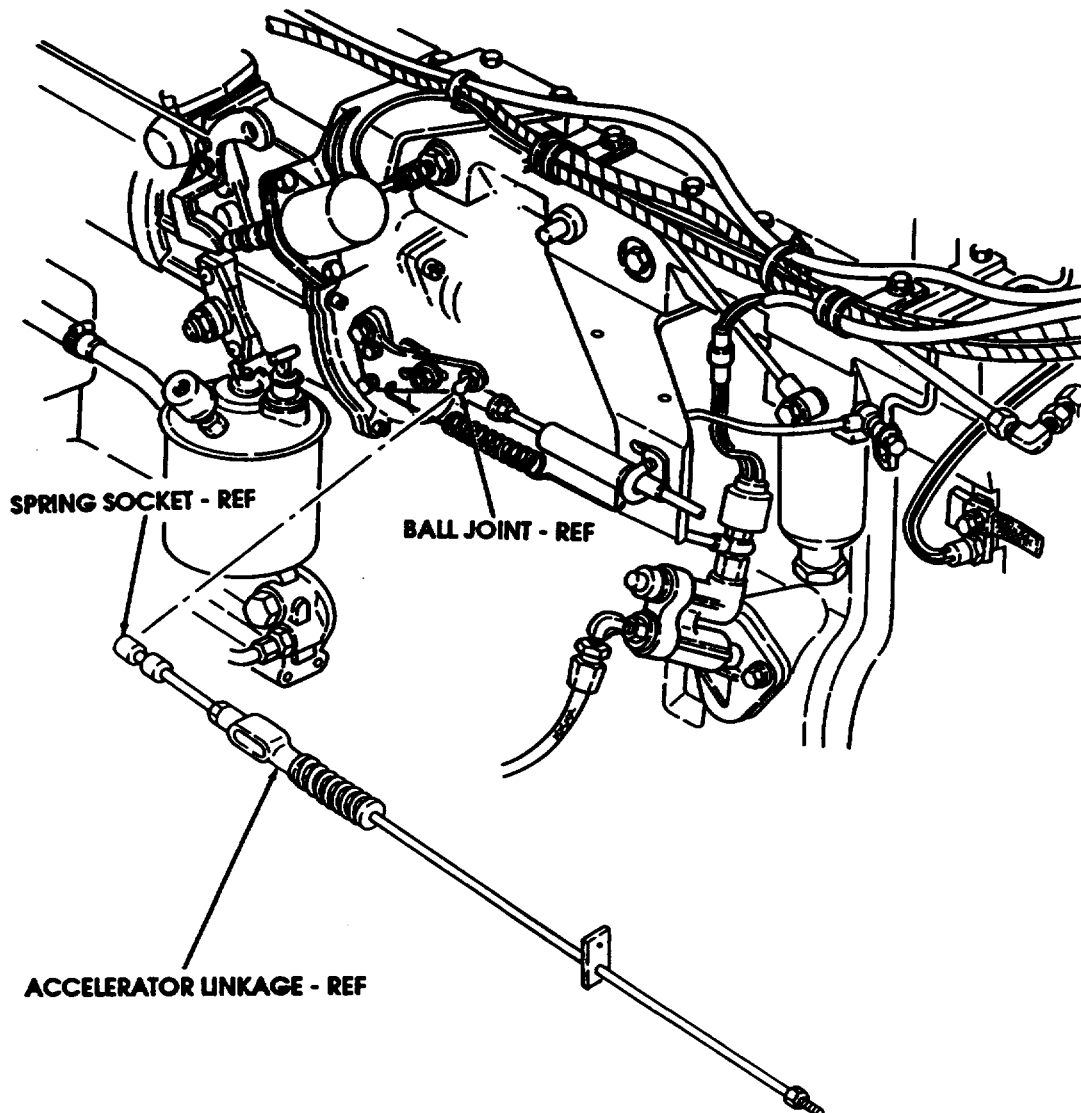

FIGURE 11
- (14) Depress spring socket and install accelerator linkage on ball joint as shown in figure 11.